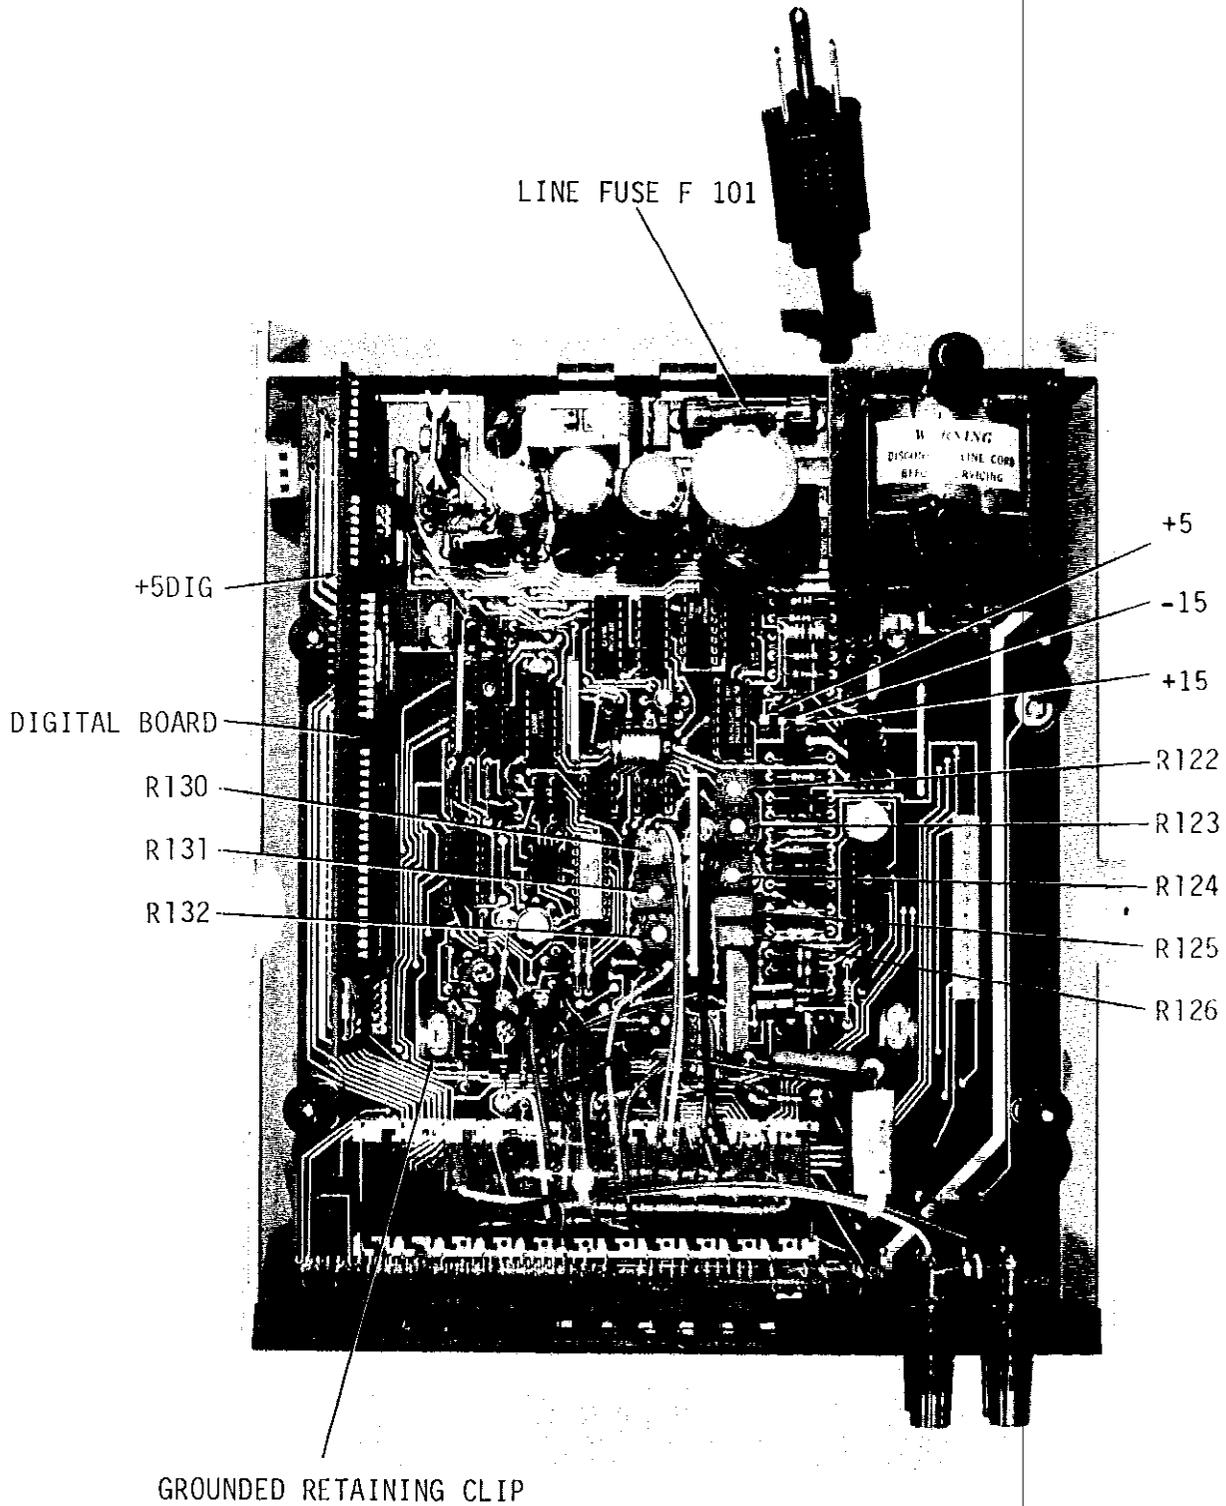

FIGURE 6-2. Model 191 (Shield Removed)
- b. Remove mother board shield by carefully lifting shield from the retaining clips. To reinstall, position shield on the four retaining clips so that the small bent tab on side of shield is positioned against the grounded retaining clip (See Figure 6-2). This tab prevents the shield from moving too far towards the rear of the mother board. Press firmly on top of shield to engage fully into retaining clips.
** Refer To Figures 6-2 and 6-3 for location of Adjustment Points.
| * On main printed circuit board (see Figure 6-2). | | | |